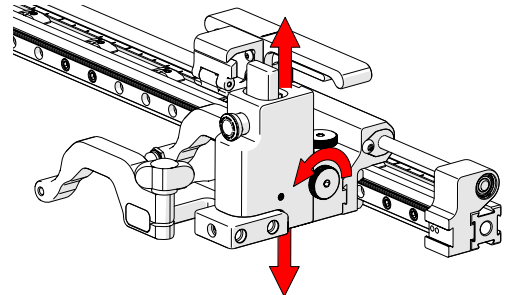

Fig. 48 - Vertical adjustment
2. The vertical adjustment knob (*Fig. 48*) allows height adjustment of the heavy duty vertical probe holder. This adjustment also controls the probe holder's spring tension.